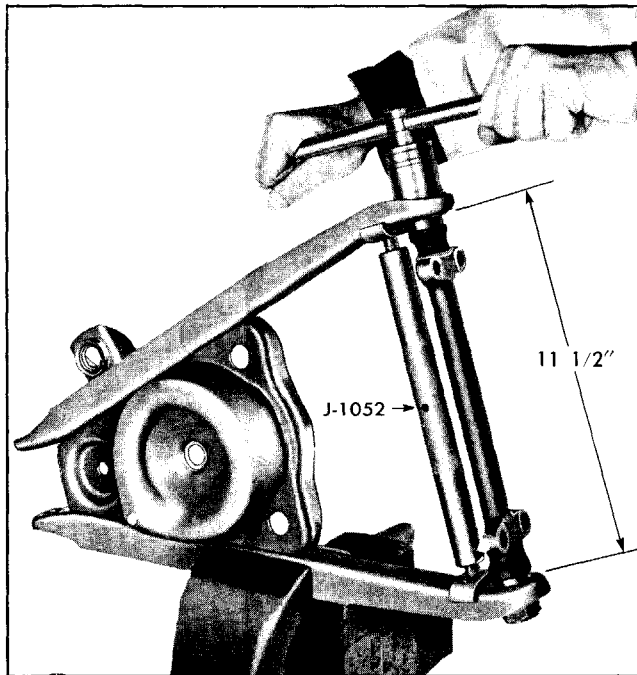

Fig. 3-17 Lower Control Arm Spreader J-1052
- a. Place tool J-1052 in position and expand until distance between inner faces of arms is 11½" (Fig. 3-17 and 3-18).